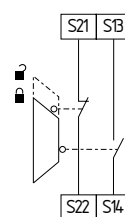

Fig. 12
**Dual-channel guard door monitoring circuit with interlocking device to ISO 14119 (Fig. 12)**